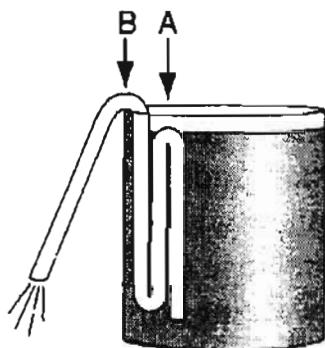

Figure TPS.1P2
2. If you push the tube shown in Figure TPS.1P2 into the glass of water so that bend A is below the water level, the tube will become a siphon, and drain the water out of the glass. Why does that happen?